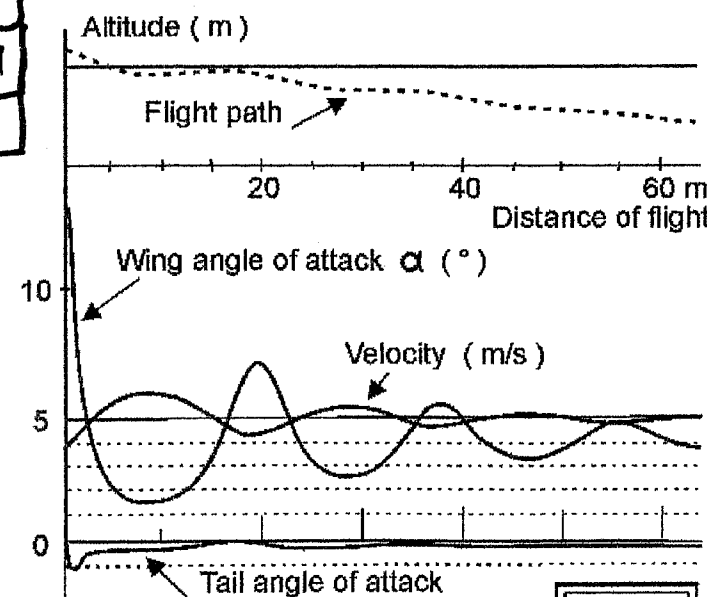

Fig. 5
The arrival of powerful computers has enabled a new method for studying questions of stability. Unlike the previous methods, which rejected trajectory descriptions, we can now calculate with the aid of the three equations of motion, using a stall as an initial condition, the attitude the model will have a little later - a step of 0.05 seconds for example. From there a new attitude can be described, step by step. The results at these instants allow us finally to reconstruct entire trajectories and to draw curves for the variations of speed, angles of attack, attitudes, etc. See Fig. 5 (ref. 7, 8, 9).